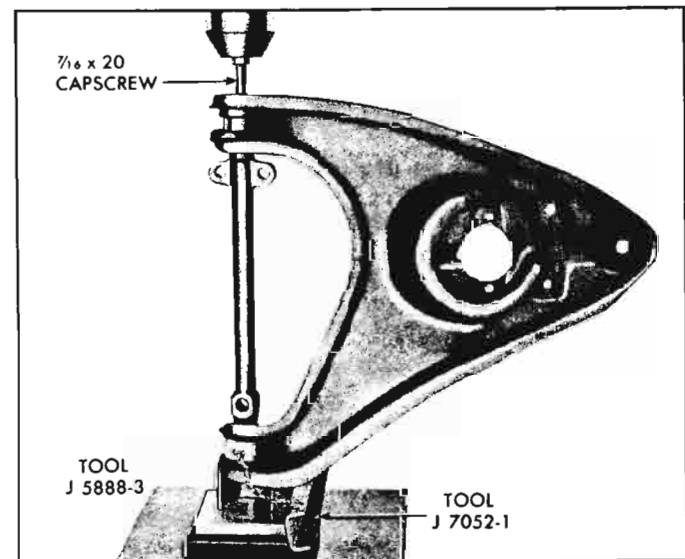

Fig. 3-58—Removing Lower Control Arm Cross Shaft Bushing
3. Support control arm in an arbor press on Tool J-5888-3, as shown in Figure 3-58.